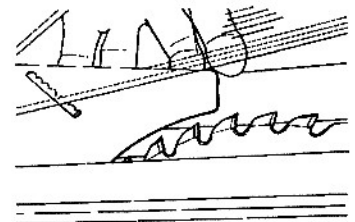

Fig. B-9
7. Adjust the riving knife (166) so it about 1/8" above the blade teeth, as seen in Fig. B-9. Tighten the riving knife knob.